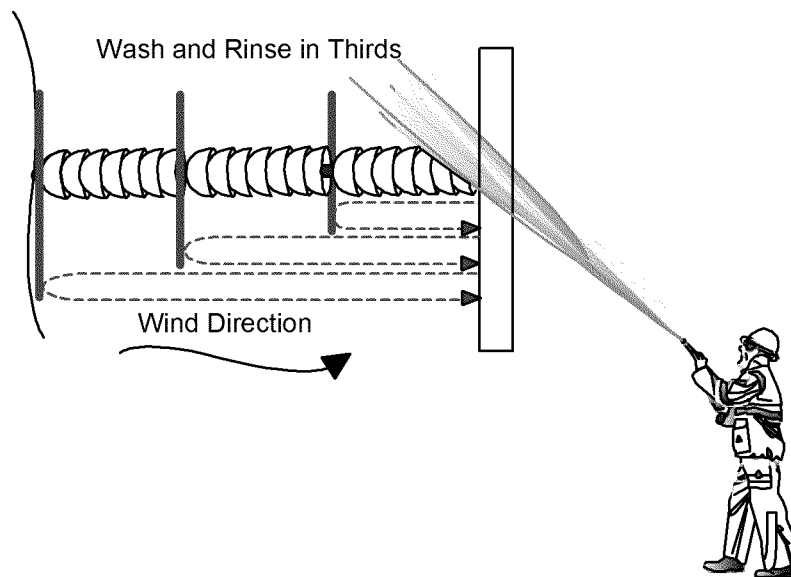

Figure 5-14
- B. Figure 5-14 below shows the washing of a horizontally-mounted post-type insulator energized at 230 kV.